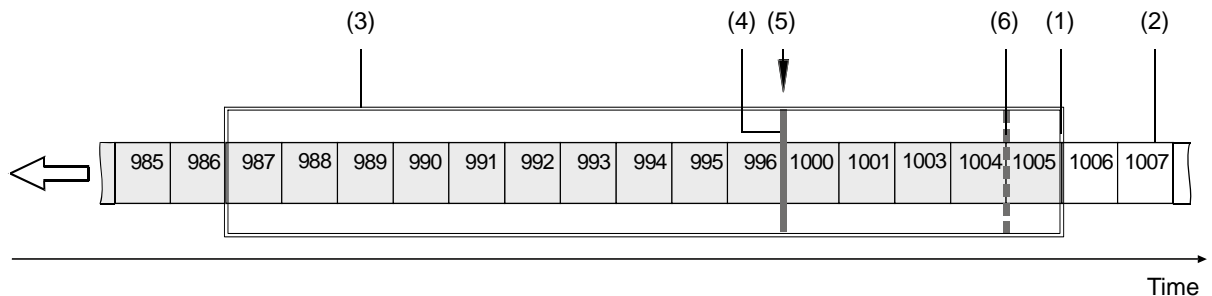

Fig. 146: Example of a Receive Window with Resend Request Threshold & Resend Request Batching Threshold
The threshold resend request mechanism is illustrated in Figure 146 where the following assumptions are made:
- (1) Front end of the receive window. Missing packets are detected here.
- (2) Stream of packets. Gray indicates that the status was checked as the packet entered the receive window. White indicates that the status has not yet been checked.
- (3) Receive window of the performance driver.
- (4) Threshold for sending resend requests (resend request threshold).
- (5) A separate resend request is sent for each packets 997, 998, and 999.
- (6) Threshold for batching resend requests for consecutive missing packets (resend request batching threshold). Only one resend request will be sent for the consecutive missing packets.
**ResendRequestThreshold** - This parameter determines the location of the resend request threshold within the receive window as shown in Figure 146. The parameter value is in per cent of the width of the receive window. In Figure 146 the resend request threshold is set at 33.33% of the width of the receive window.
A stream of packets advances packet by packet beyond the resend request threshold (i.e. to the left of the resend request threshold in Figure 146). As soon as the position where a packet is missing advances beyond the resend request threshold, a resend request is sent for the missing packet.
In the example shown in Figure 146, packets 987 to 1005 are within the receive window and packets 997 to 999 and 1002 were detected as missing. In the situation shown, a resend request is sent to the camera for each of the missing consecutive packets 997 to 999. The resend requests are sent after packet 996 - the last packet of the intact sequence of packets - has advanced beyond the resend request threshold and before packet 1000 - the next packet in the stream of packets - can advance beyond the resend request threshold. Similarly, a resend request will be sent for missing packet 1002 after packet 1001 has advanced beyond the resend request threshold and before packet 1003 can advance beyond the resend request threshold.
**ResendRequestBatching** - This parameter determines the location of the resend request batching threshold in the receive window (Figure 146). The parameter value is in per cent of a span that starts with the resend request threshold and ends with the front end of the receive window. The maximum allowed parameter value is 100. In Figure 146 the resend request batching threshold is set at 80% of the span.
If the ResendRequestBatching parameter is set to 0, no batching will occur and a resend request will be sent for each single missing packet. For other settings, consider an example: Suppose the Resend Request Batching parameter is set to 80 referring to a span between the resend request threshold and the front end of the receive window that can hold five packets (Figure 146). In this case 4 packets ( $5 \times 80\%$ ) will fit into the span between the resend request threshold and the resend request batching threshold. Accordingly, the maximum number of consecutive missing packets that can be batched is 5 ( $4 + 1$ ).